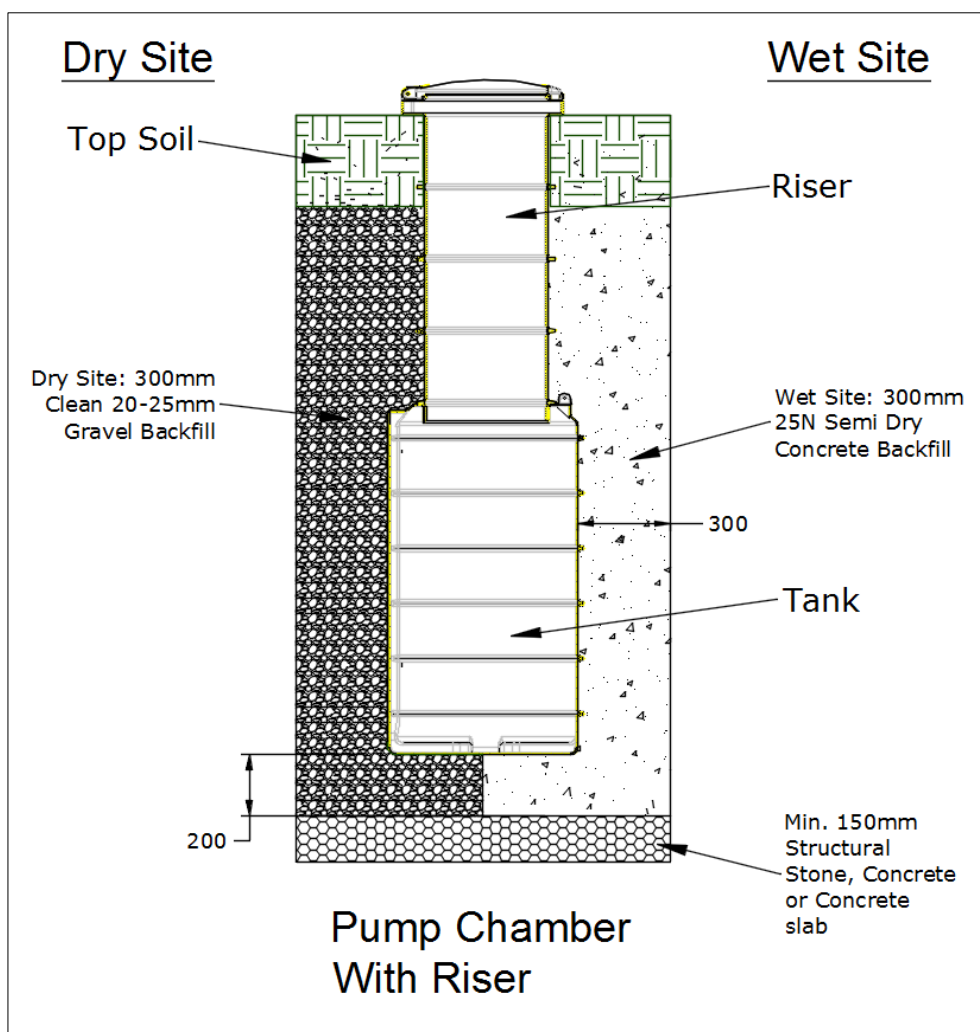
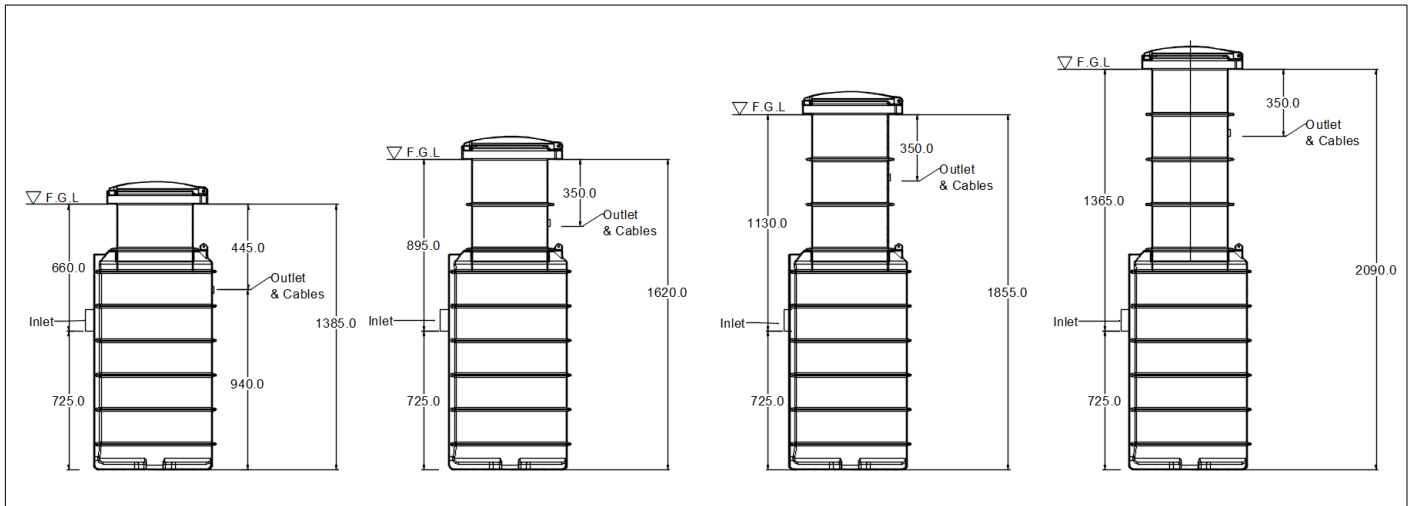

Figure 5 Dry Site and Wet Site Installations
Figure 9 Pump Chamber Invert and overall heights with Riser. F.G.L=Finished Ground Level
1. A 1200x1200mm excavation is to be provided for the Pump Station. To work out the depth of excavation, add 350mm to the overall pump station base to Finished Ground Level height. See Figure 9. Also see Figure 5.